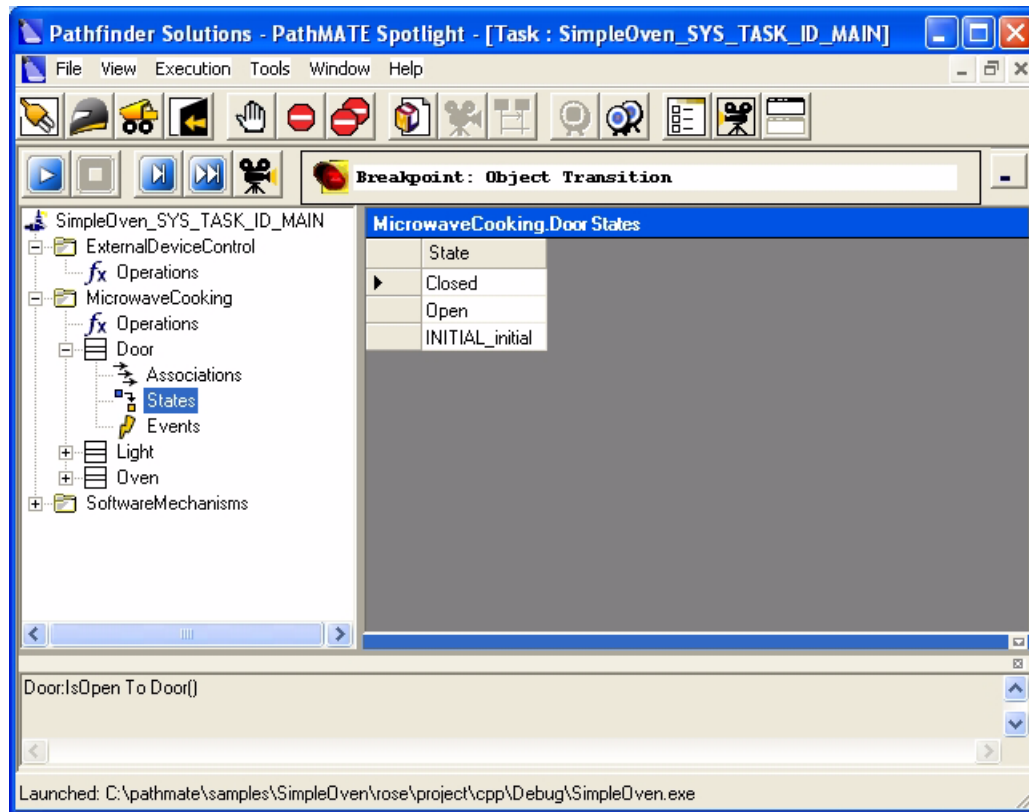

Figure 4-3. States in the Door Class
5. Select *States* in the Door class (Figure 4-3).